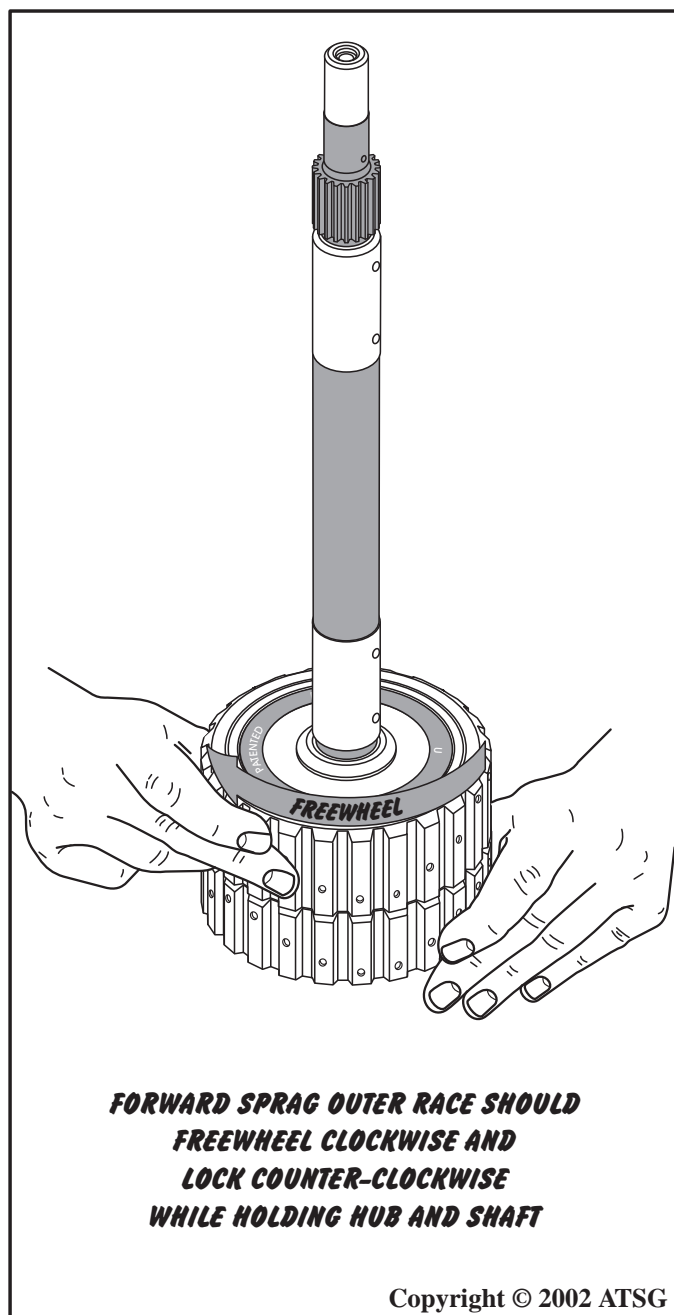

Figure 103
10. Check the forward sprag for proper operation as shown in Figure 103.
Note: *Forward Sprag Outer Race should freewheel clockwise and lock counter-clockwise, as shown in Figure 103.*